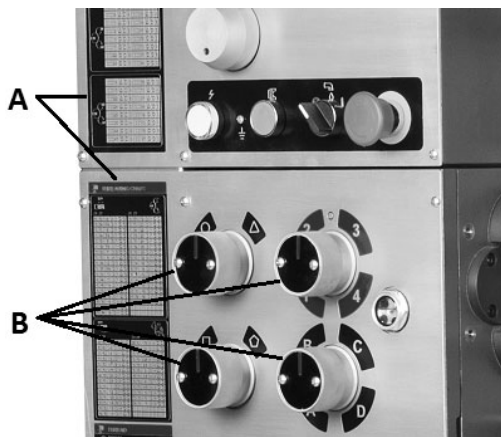

Figure 10-1
1. Refer to the feed and thread table (A, Figure 10-1; also sect. 12.0 of this manual).
2. Move knobs and handle (B, Figure 10-1) to appropriate positions.